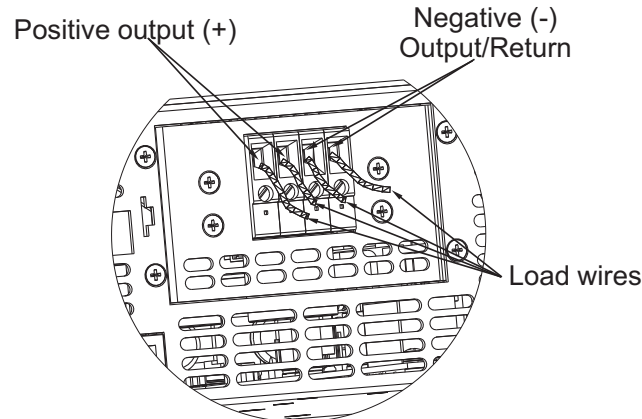

Fig.3-8: Load wires connection to the output connector
Output Voltage Range 150V to 600V models: refer to Fig. 3-8.
3. Insert the stripped wires into the terminal and tighten the terminal screw securely(see Fig.3-8)